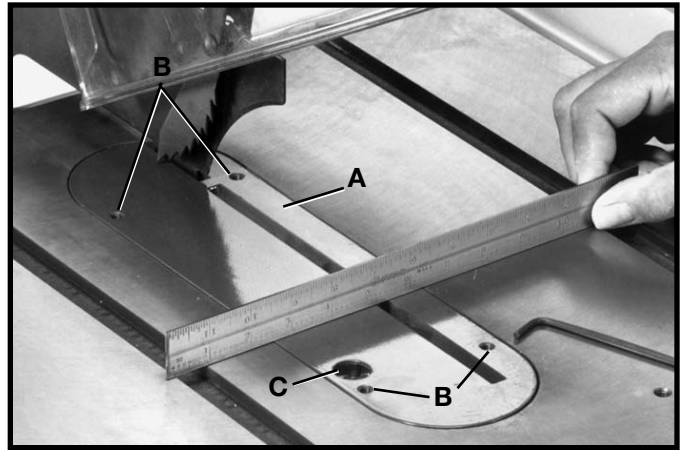

Fig. 105
Place a straight edge across the table at both ends of the table insert (Fig. 105). The table insert (A) should always be level with the table. If an adjustment is necessary, turn the adjusting screws (B). Four adjusting screws (B) are supplied in the table insert. The table insert is equipped with a convenient finger hole (C) for easy removal.